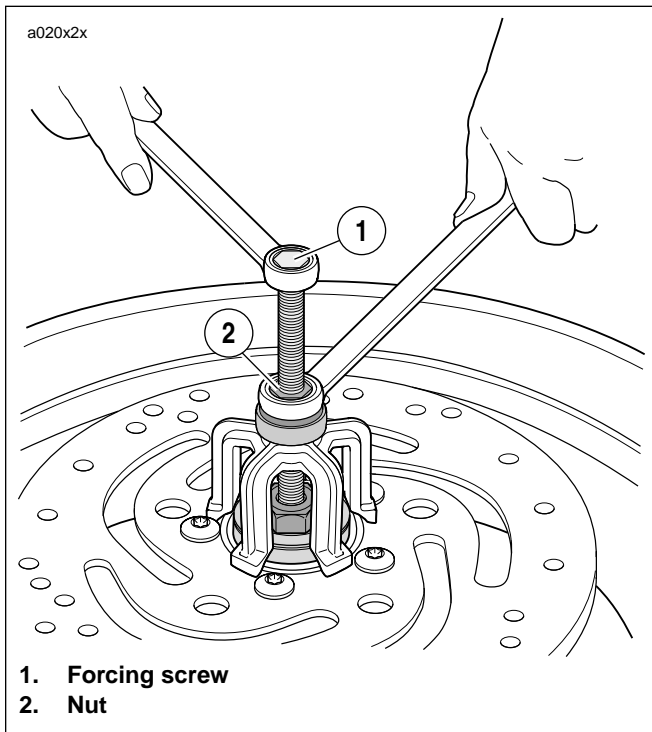

Figure 2-15. Remove Bearing
4. See Figure 2-15. When expanded collet has gripped bearing edges, hold end of forcing screw (1) and turn the nut (2) to remove bearing from wheel.